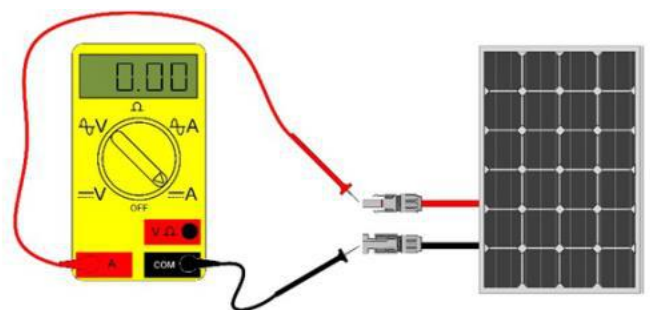

Figure.2.
2. Set the multimeter to current test mode. Connect the red probe to the positive side of the solar panel output cable and the black probe to the negative side of the output cable. Check the value displayed on the multimeter and compare it to the value of the short-circuit current printed on the label on the back of the solar panel. These two values should be close under good lighting and temperature conditions.Figure.2.